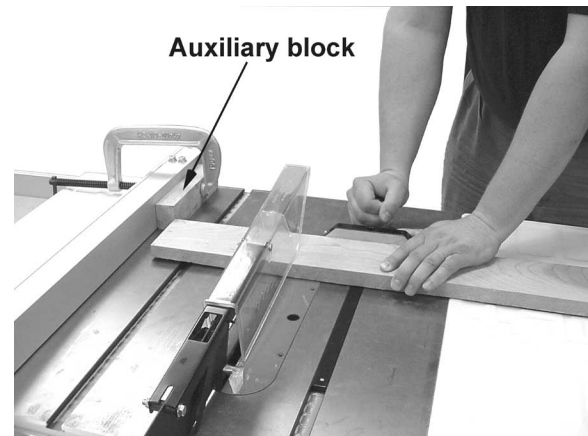

Figure 31
- Do not use the miter gauge and rip fence in the same operation unless provision is made by use of a facing board on the fence so as to allow the cutoff section of the workpiece to come free before the next cut is started (See Figure 31).
Crosscutting should **never** be done freehand nor should the fence be used as an end stop unless an auxiliary block is clamped to the front of the blade area such that the cutoff piece comes free of the block before cutting starts (Figure 31).